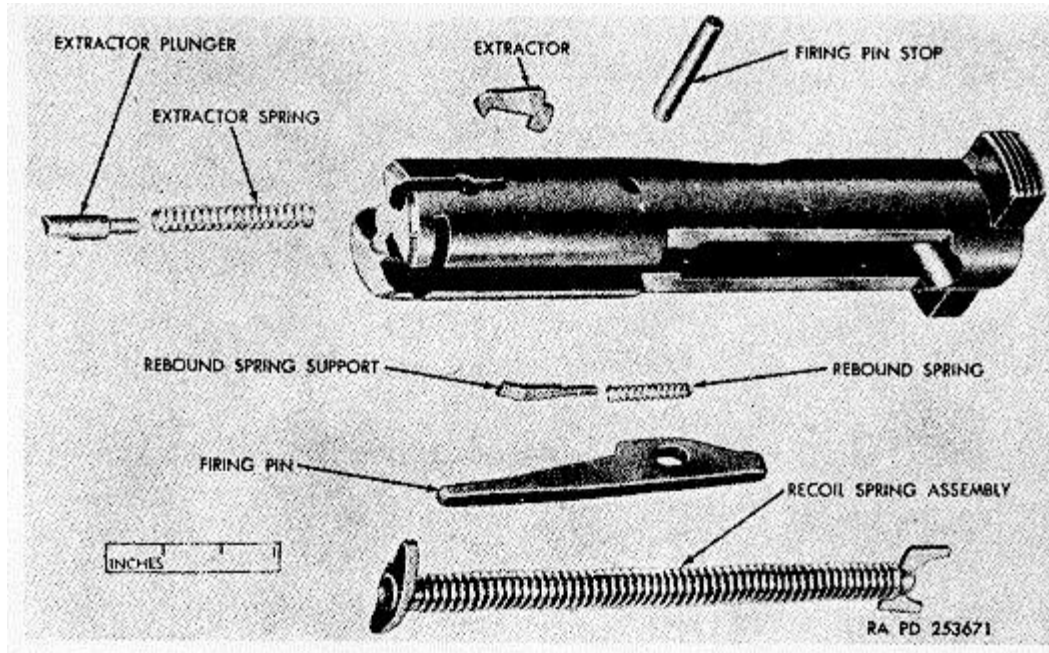

Figure 55. Bolt assembly-exploded view (Ruger).
a. *General.* The bolt assembly (fig. 55) consists of the recoil spring assembly, firing pin, rebound spring support, rebound spring, firing pin stop, extractor, extractor spring, and extractor plunger.
- (1) Lift off the recoil spring assembly (fig. 55) from the top of the bolt.
- (2) Drive out the firing pin stop, and remove the firing pin, rebound spring support, and rebound spring from the bolt.
- (3) Depress the extractor plunger and, while holding the plunger, remove the extractor. Slowly release pressure on the extractor spring, and remove the plunger and spring.
**Note.** The key letters shown below in parentheses refer to figure 55.